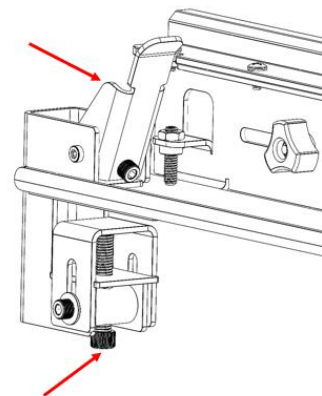

Figure 2 – Cam handle position and screw mentioned in step 2
- 2- With both cam handles in the unlocked position (see *figure 2*), loosen or tighten the screws below the clamp adjustment brackets until there is a very small gap between the clamp adjustment bracket and the top (just enough to allow you to move the fence when unlocked).